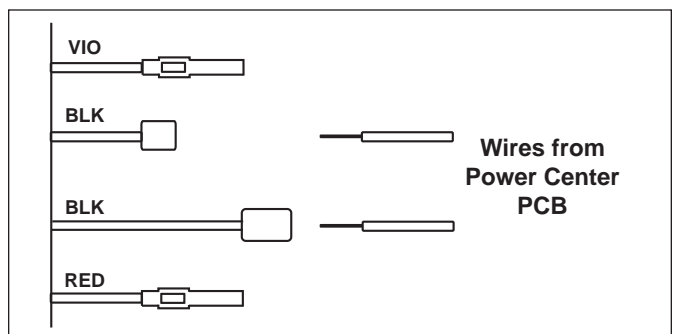

Figure 14. Pentair Heater Wiring with AquaLink RS
3. Connect the wires from the Power Center PCB to the two black wires on the heater (see Figure 14).